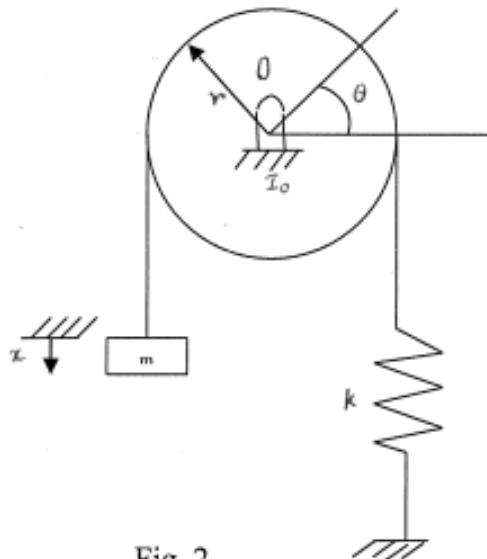

Fig. 2
- b) Determine the natural frequency of oscillation of the system shown in Fig. 2 by